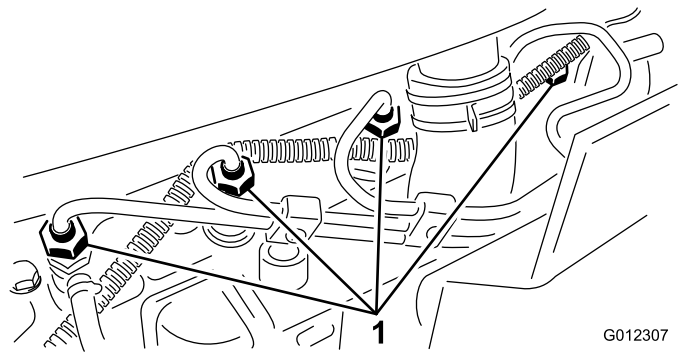

Figure 34
1. Loosen the pipe connection to the No. 1 nozzle and holder assembly (Figure 34).